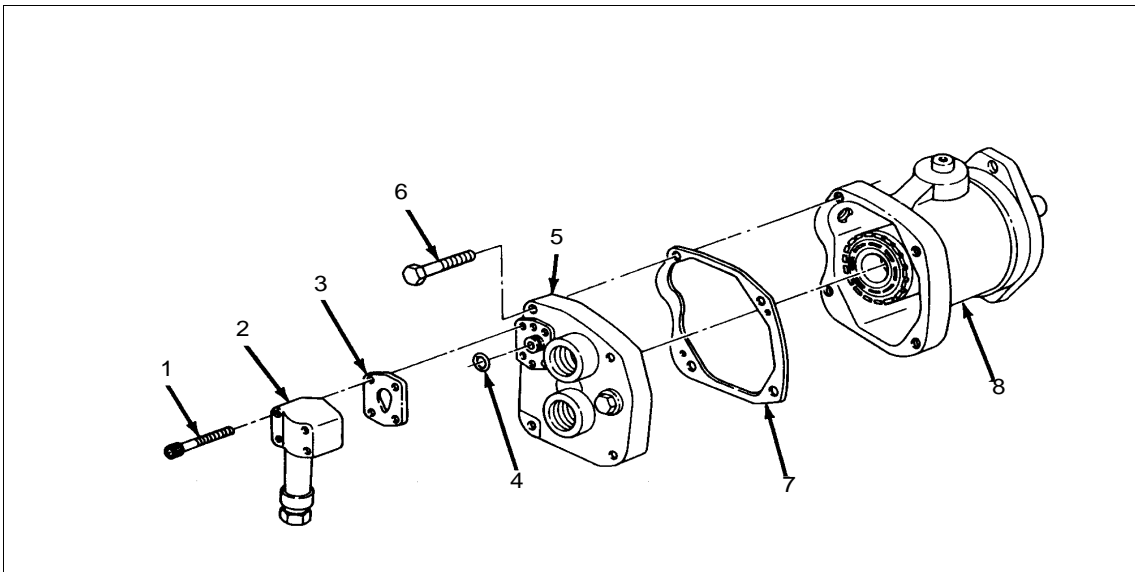

Figure 1-15. Disassembling the piston pump, part II
- Remove the elbows (4 and 6) and the seals (14 and 15) from the pump (7). Discard the packing.
- Remove the elbow (5), the reducer (16), the seal (17), the elbow (18), and the seal (19) from the pump (7). Discard the seals (17 and 19).
b. Refer to Figure 1-15, and disassemble the piston pump using the following steps:
- Remove the four cap screws (1), compensator (2), gasket (3), and seal (4) from the cover (5). Discard the gasket (3) and the seal (4).
b. Refer to Figure 1-15, page 1-15, and reassemble the piston pump using the following steps:
- Install the gasket (7) and cover (5) on the housing with the four screws (6). Tighten the screws (6) to 25 to 35 foot-pounds.
- Install the packing (4), gasket (3), and compensator (2) on the cover (5) with four screws (1). Tighten the screws (1) to 60 to 70 foot-pounds.